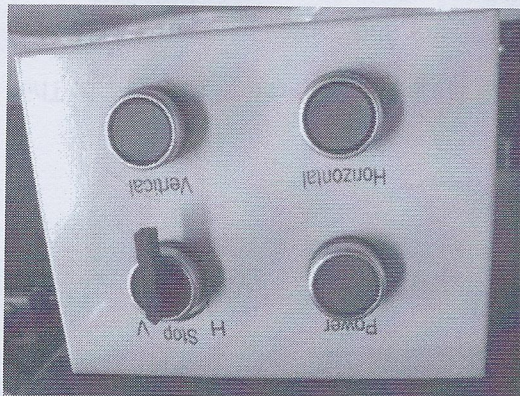

Figure 3-6 Control Panel
- 2. Select the rotation direction, see Figure 3-6.
- 1. Press 'Power' button to switch on the power, see Figure 3-4 & Figure 3-6.